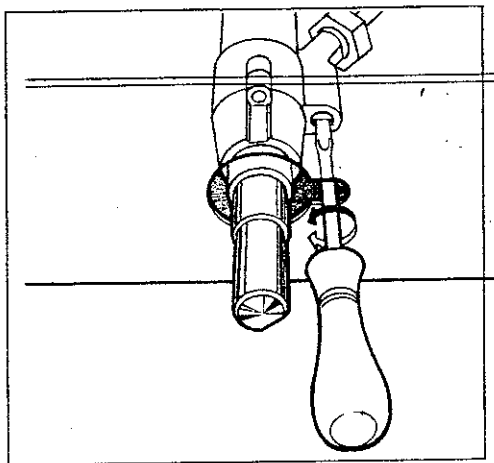

fig.7
- Remove the tap knob (fig.7) and turn the adjusting screw, situated to the side of the tap stem, using a screwdriver (loosening the screw increases the height of the flame, tightening decreases it).